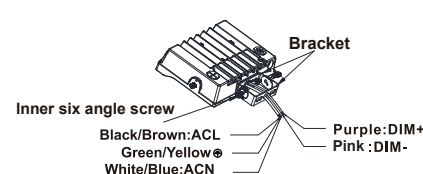

figure 6.5
Step 2: Finish the wire connection according to the right mode of connection (pay attention to positive wire, negative wire, and ground wire). (figure 6.5)